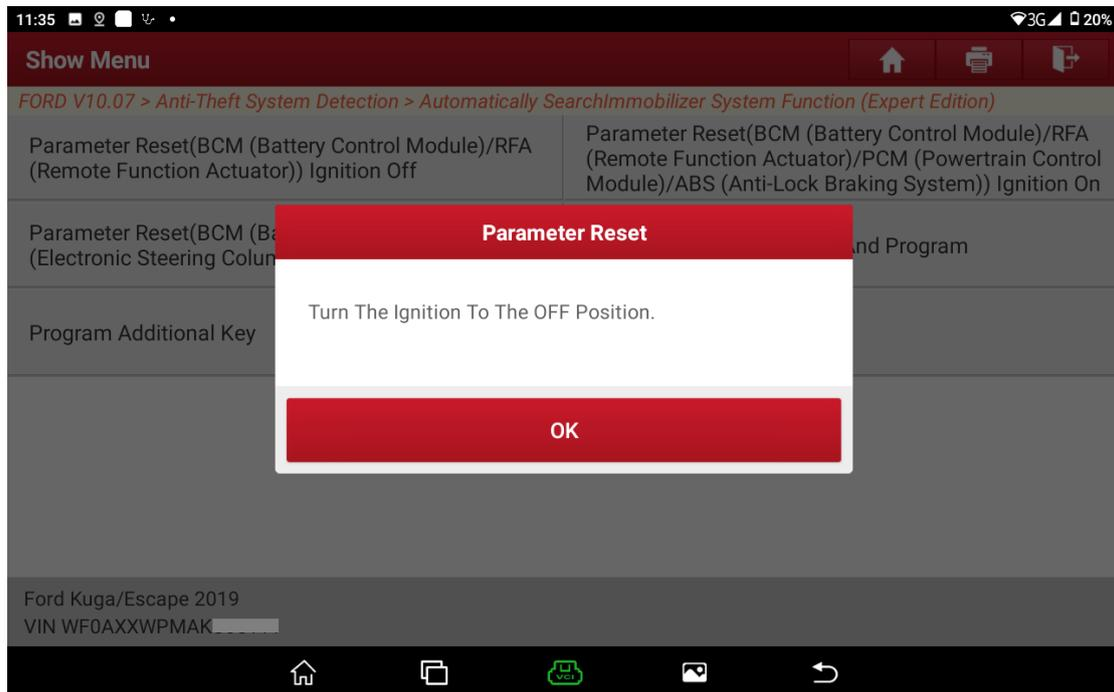

Figure 14
12. Prompt to turn off the ignition switch. See Figure 14.